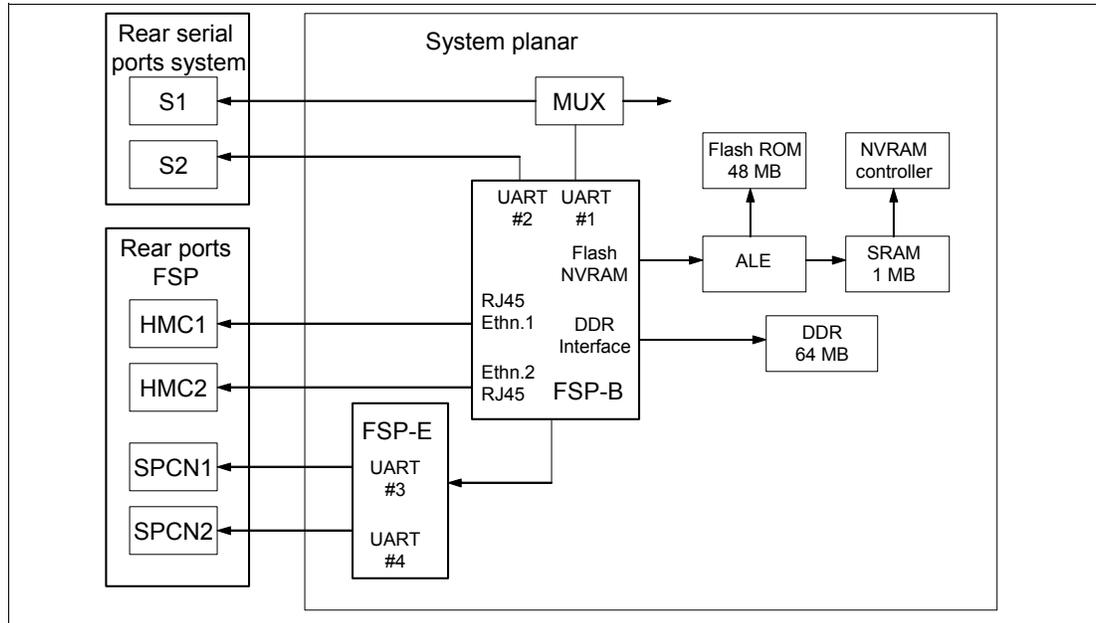

Figure 2-13 Service processor logical diagram
The service processor (SP) is an embedded controller based on a PowerPC 405GP processor (PPC405) implementation running the SP internal operating system. The SP operating system contains specific programs and device drivers for the SP hardware (Figure 2-13 on page 37).